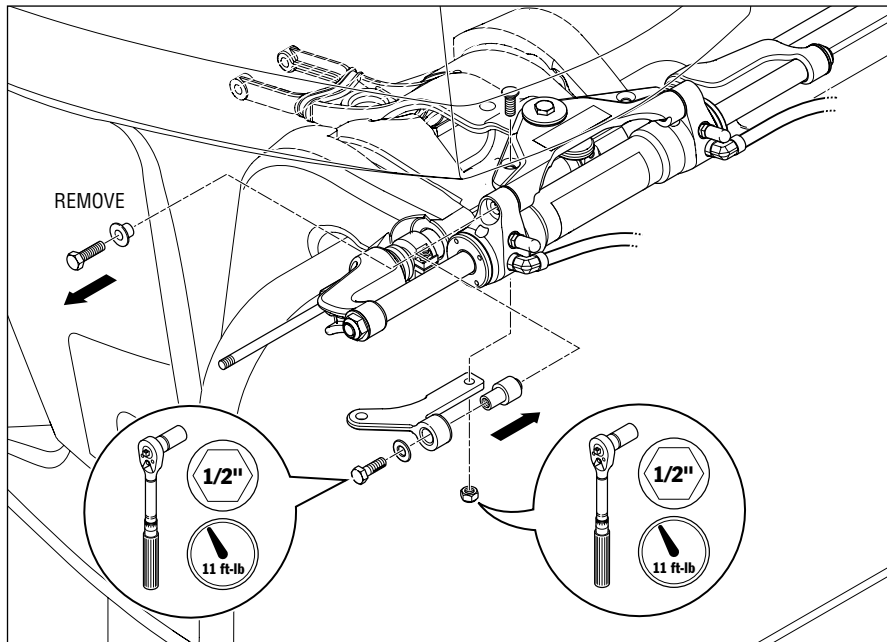

Figure 10.
- Remove bolt and stem washer as shown in Figure 10.
- Install drive bracket onto cylinder ear as shown in Figure 10.